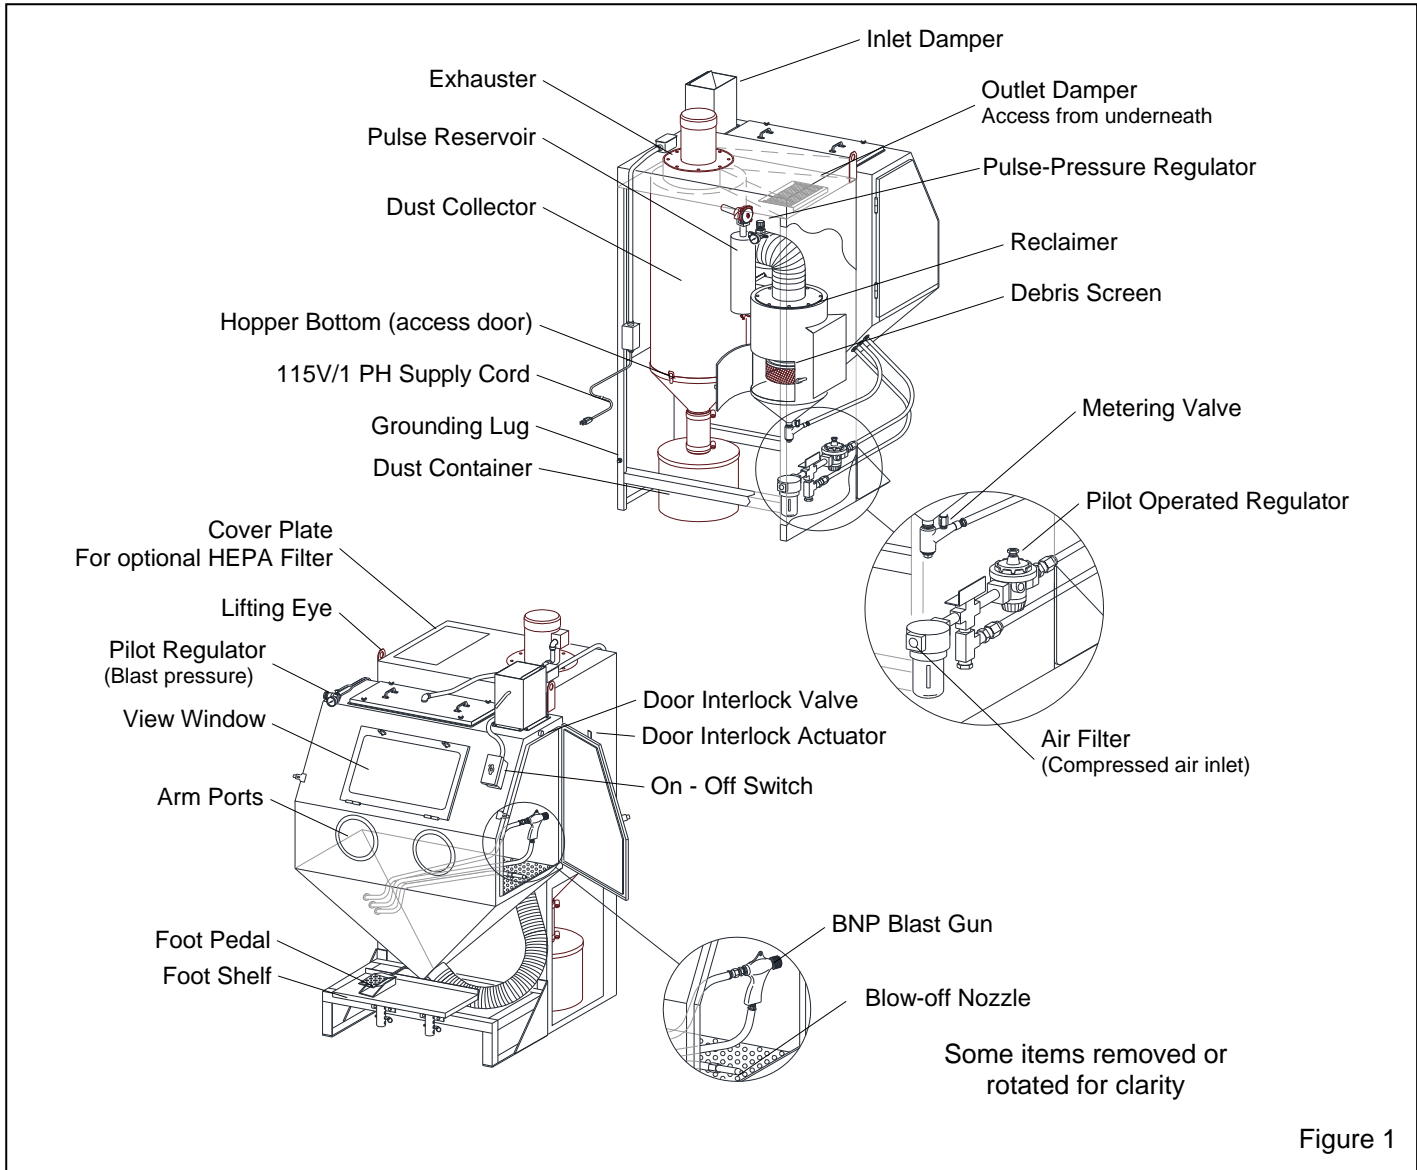

Figure 1
1.3.1 Refer to Figure 1 for arrangement of components. The blast cabinet encloses the blasting environment to provide efficient blasting while maintaining a clean surrounding work area. Production rates are influenced by size of nozzle, compressor output, working pressure, type and size of media, angle and distance of the nozzle from the blast surface. Pulsar® 55se cabinets consist of two major components.
**2.2.1** Install an air fitting that is compatible with the air supply hose fitting, to the compressed-air filter located on the inside wall of the power module, as shown in Figure 1. Refer to Paragraph 2.2.2.